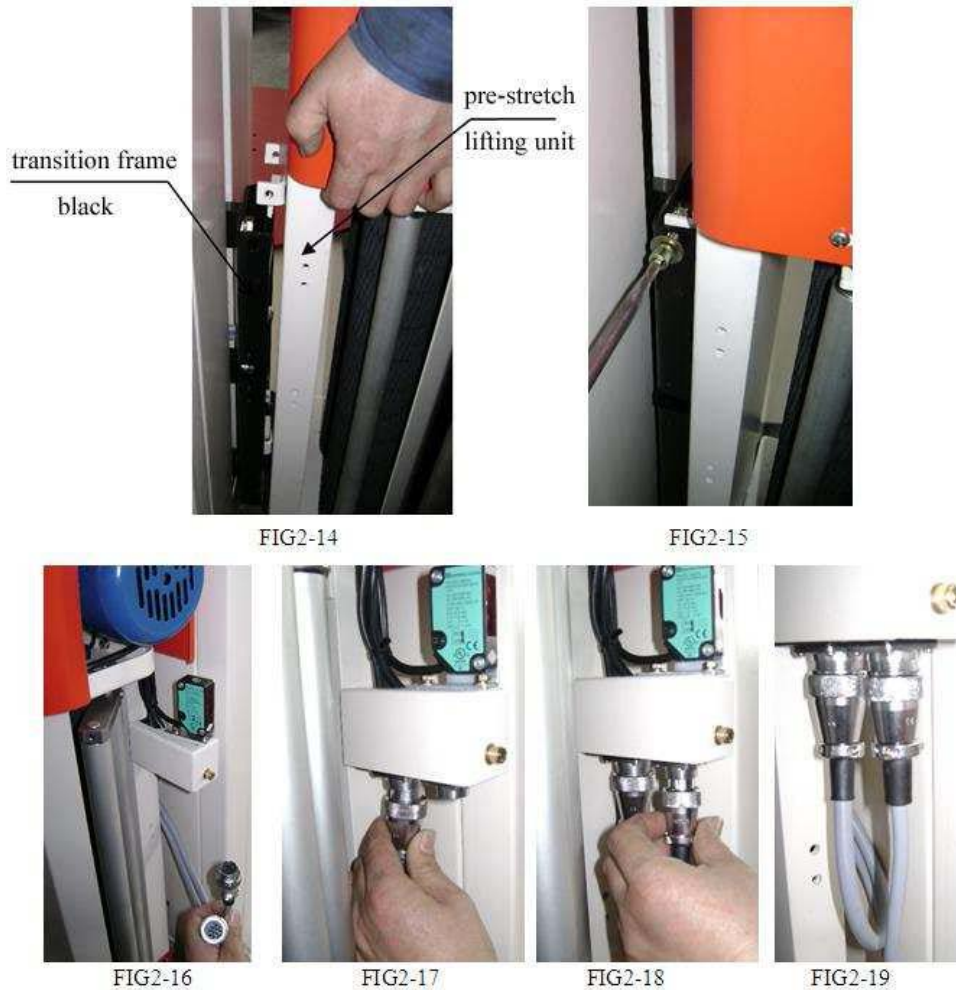

Fig. 2-6
Step 4a (Eagle 1000B) - Remove M8 screws from rear of carriage. Affix the carriage onto the corresponding position on the mast and fasten with four M8 bolts. Insert the connector plugs on the front of the carriage into the receptacles. Do not force the connectors together. (See Fig. 2-6)